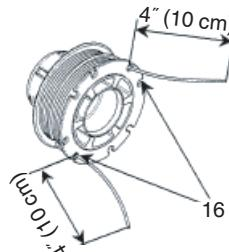

Fig. 23
- (4) Push each line into the stopper holes (16), leaving the loose ends approx. 4" (10 cm) in length. (Fig. 23)